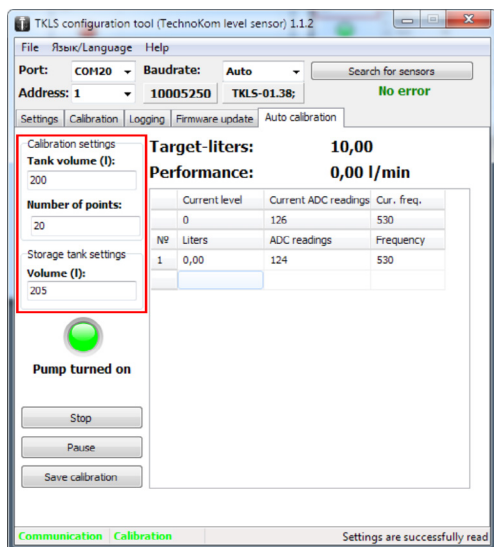

Fig.3. Auto calibration tab.
- Before starting the calibration, specify the fuel tank volume in the “Tank volume (l)” field (Fig.3). Also specify a number of calibration points in the “Number of points” field. Maximum value is 50;
- Then specify the storage tank volume in litres (Fig.3);